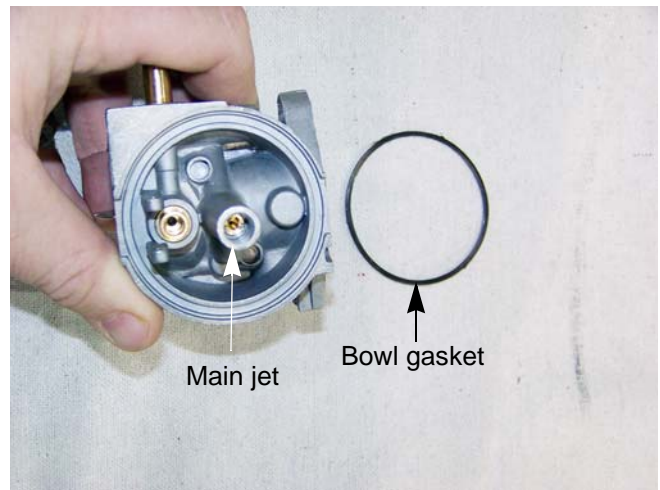

Figure 4.9
6. Remove the main jet using a narrow-shank straight blade screwdriver. See Figure 4.9.